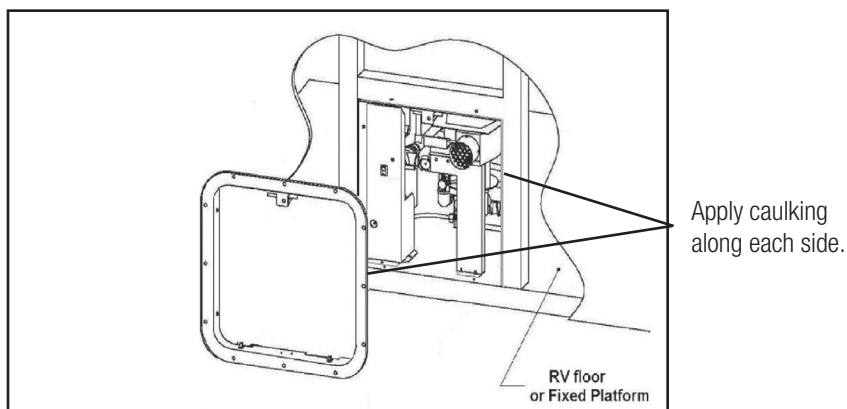

Figure 3
2. Position water heater housing into the frame opening with the front edge aligned evenly to the exterior wall (See Figure 3).